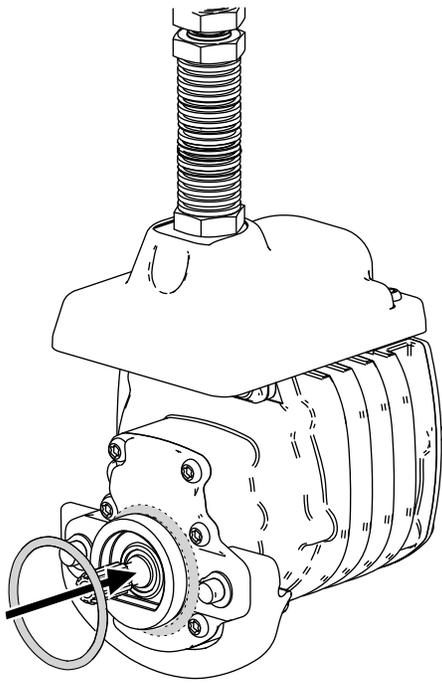

Figure 13
3. Install an O-ring to each reel motor as shown in Figure 13.